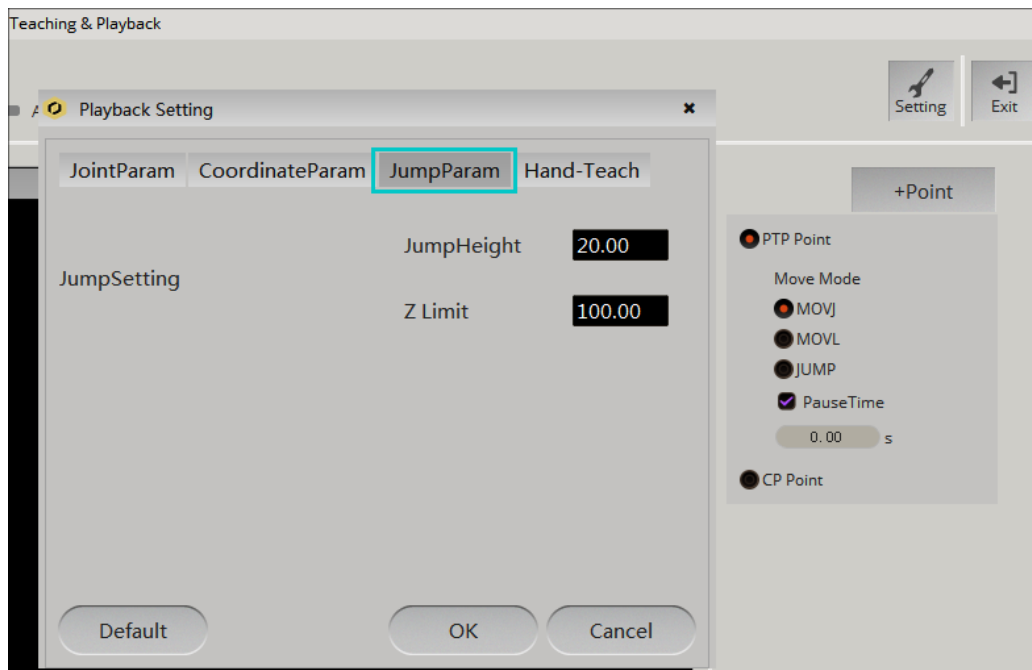

Figure 14: Assignment of the JumpHeight parameter.
- if $Z_A = Z_B$ then $h_A = h_B = \text{JumpHeight}$ where *JumpHeight* in mm is defined in the Setting/Playback/JumpParam tab (see Figure 14),